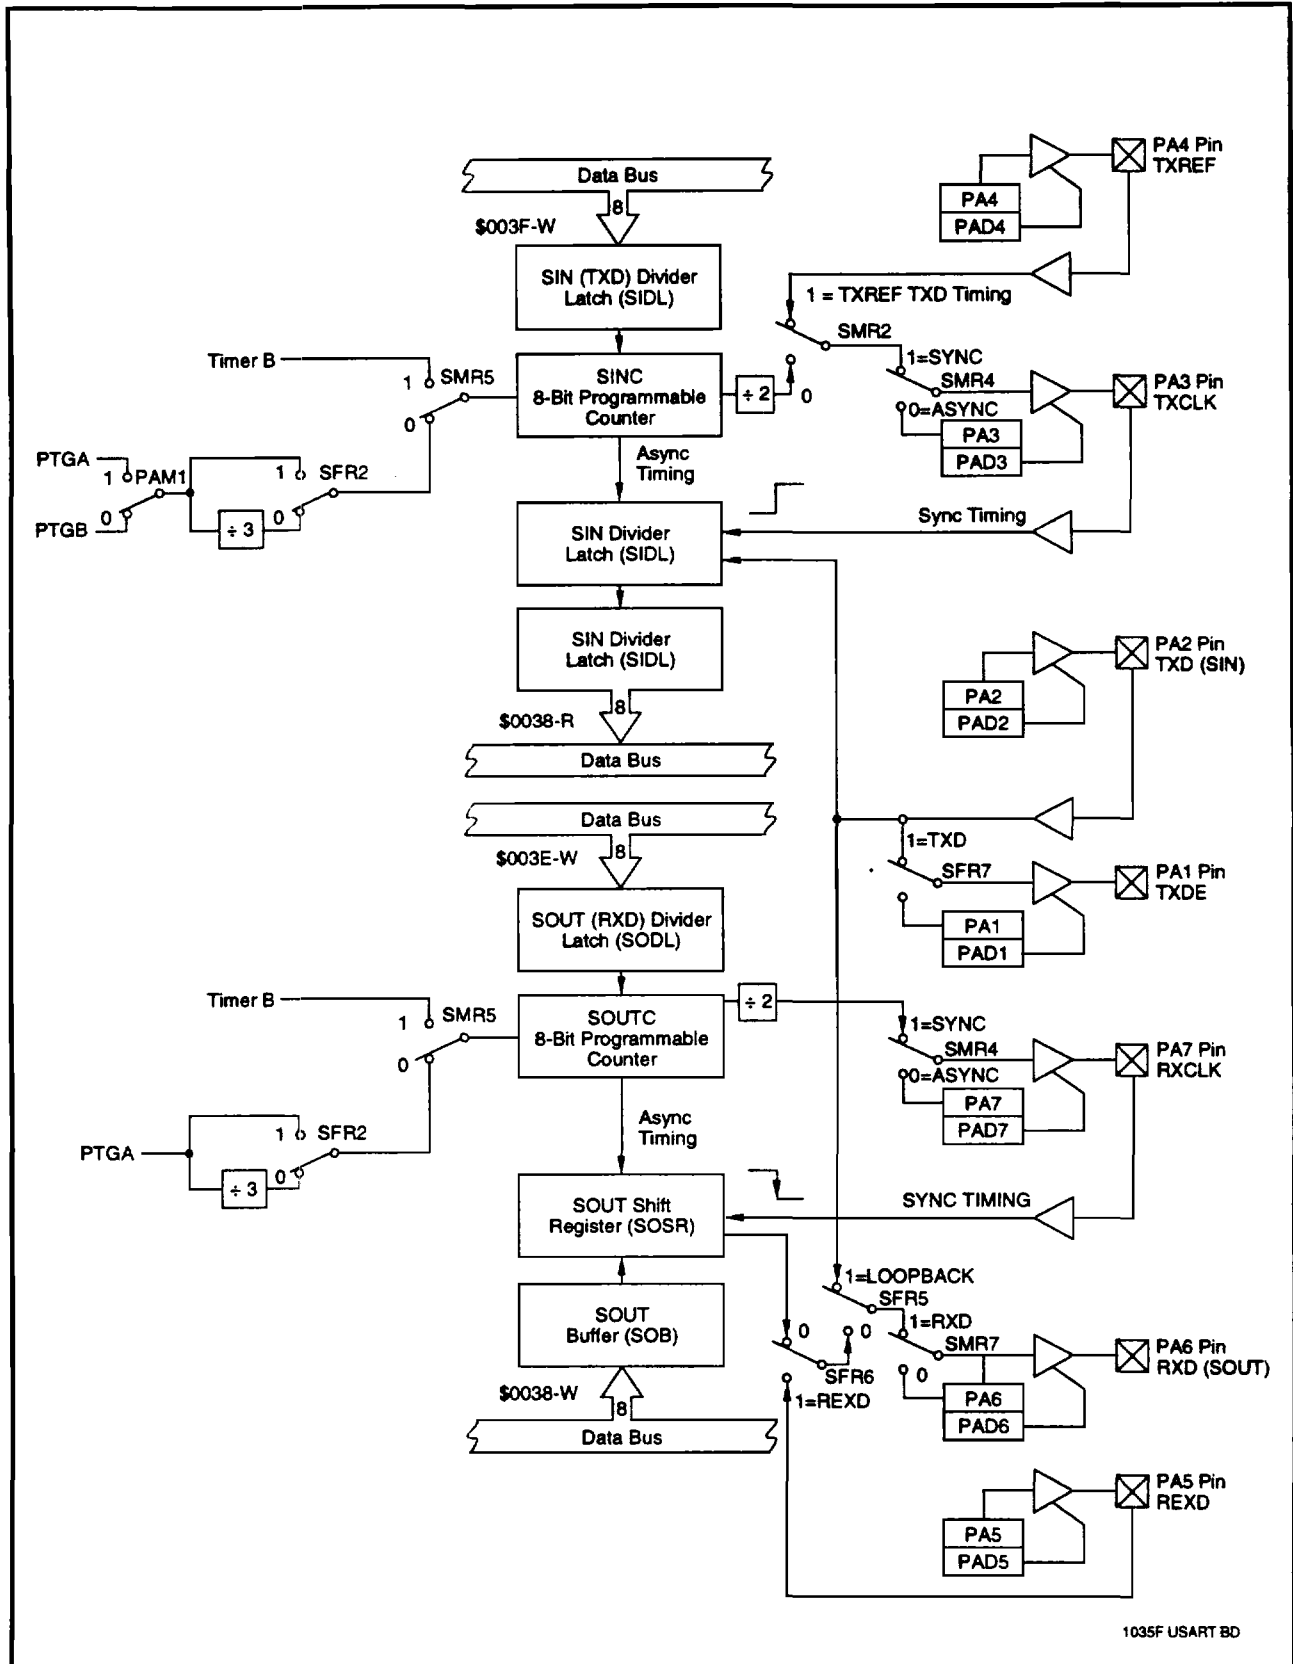

Figure 3-17. USART Block Diagram
The MCU provides a full-duplex serial universal synchronous/asynchronous receiver/transmitter (USART) interface with programmable operating modes and data rates. Serial-to-parallel conversion is performed on data characters received from an external device and parallel-to-serial conversion is performed on data characters received from the MCU internal data bus. A block diagram of the USART is shown in Figure 3-17.
This assumes that the USART DIV BY 2 mask option (Figure 3-17) is selected. If short stop bits or 5-bit operation is selected, the user must program the SOUT Divider Latch (SODL) to decimal 15 (\$0F).
**Case 4 - Synchronous PTGB.** An extra DIV BY 2 also occurs in the synchronous mode. Using the same setup as in Case 3 and again assuming that the USART DIV BY 2 mask option (Figure 3-17) is selected.